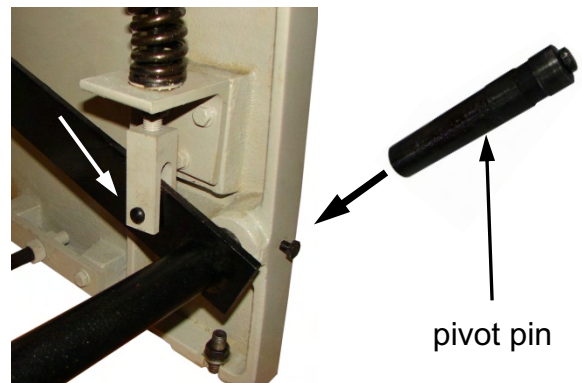

figure 5
2. Move the pedal into position between the legs of the shear and attach to the yokes with short clevis pins as in (fig. 5). Secure with cotter pins.